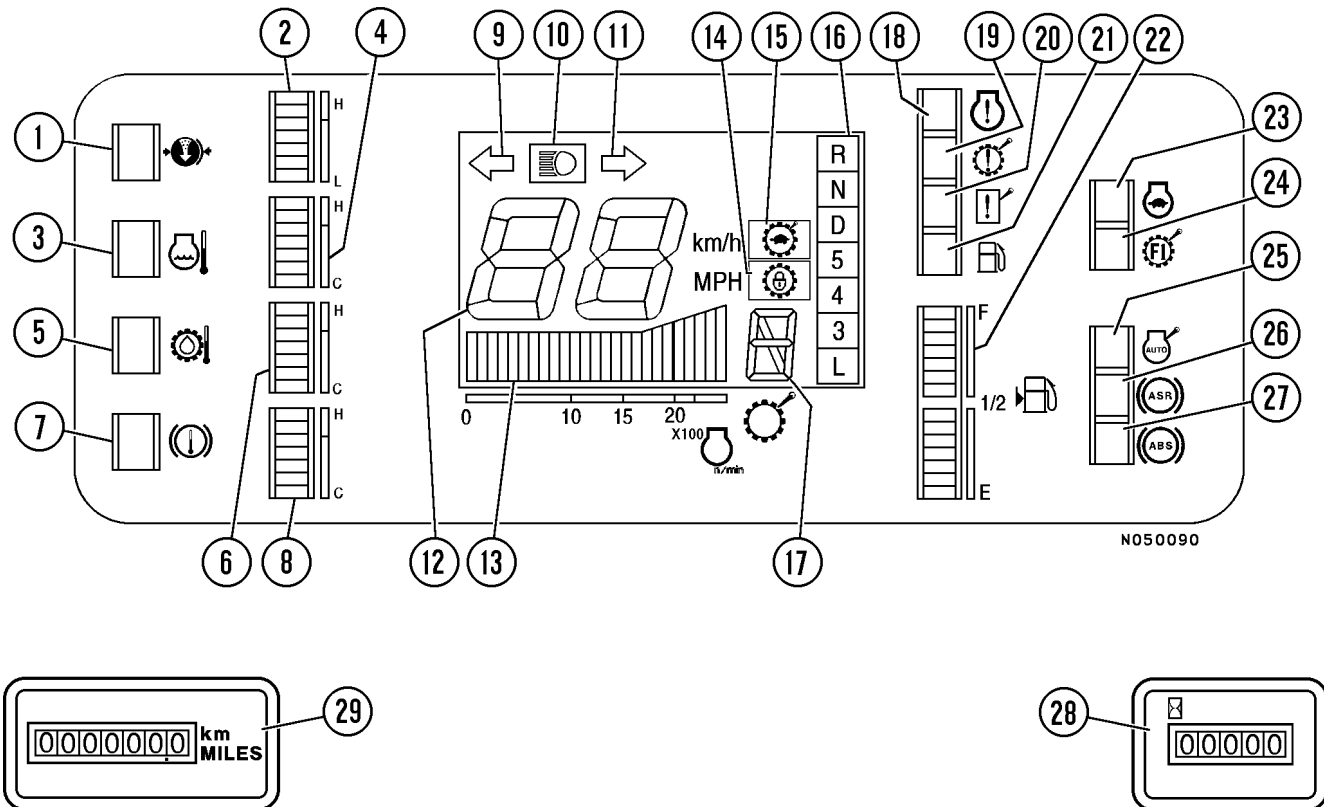

FIGURE 3-11. CENTER DISPLAY PANEL
The Center Display Panel (4, Figure 3-9) consists of a gauge and monitor module (1 – 27, Figure 3-11), with an odometer module (29) and a service/hour meter module (28). Liquid crystal is used for the display area.
The Air Pressure Monitor (1, Figure 3-11) is NOT USED on this truck.
The Air Pressure Gauge (2, Figure 3-11) is NOT USED on this truck.
The Coolant Temperature Monitor (3, Figure 3-11) indicates a rise in the cooling water temperature.
The Engine Cooling Water Temperature Gauge (4, Figure 3-11) indicates the temperature of the cooling water. If the temperature is normal during operation, the green range will light. If the red range lights during operation, the alarm buzzer will sound, the central warning lamp will flash and the coolant temperature monitor lamp will flash at the same time. If this occurs, stop the machine and run the engine with no load at 1200-1500 RPM until the green range lights.
The Torque Converter Oil Temperature Monitor (5, Figure 3-11) indicates a rise in the torque converter oil temperature.
The Torque Converter Oil Temperature Gauge (6, Figure 3-11) indicates the temperature of the torque converter oil. If the temperature is normal during operation, the green range will light. If the red range lights during operation, the alarm buzzer will sound, the central warning lamp will light up and the torque converter oil temperature monitor lamp will flash at the same time. If this occurs, stop the machine and run the engine with no load at 1200-1500 RPM until the green range lights.
The Retarder Oil Temperature Monitor lamp (7, Figure 3-11) warns that the retarder oil temperature has risen.
The Retarder Oil Temperature Gauge (8, Figure 3-11) indicates the temperature of the retarder cooling oil. During normal operation, a lamp in the green range should light up.
When the turn signal lever is moved downwards, the left turn signal pilot lamp (9, Figure 3-11) flashes.
The High Beam Pilot Lamp (10, Figure 3-11) lights up when the head lamps are on high beam.
When the turn signal lever is moved upwards, the right turn signal pilot lamp (11, Figure 3-11) flashes.
The digital Speedometer (12, Figure 3-11) indicates the travel speed of the truck in miles per hour, or kilometers per hour.
The Tachometer (13, Figure 3-11) indicates 0-2500 RPM engine speed. Each bar represents 100 RPM.
The Lock-Up Pilot Lamp (14, Figure 3-11) lights up (blue) whenever the torque converter is locked up and the transmission enters direct drive.
The Shift Limiter Pilot Lamp (15, Figure 3-11) lights up (blue) whenever the shift limiter switch (on center console) is activated.
The Shift Indicator (16, Figure 3-11) indicates the **lever position** of the transmission range selector.
The Transmission Shift Position Pilot Lamp (17, Figure 3-11) will indicate the specific gear range in which the transmission is actually operating: R, N, 1, 2, 3, 4, 5, 6, or 7.
This red indicator (18, Figure 3-11) flashes whenever any abnormality occurs in any of the engine control systems.
This red indicator (19, Figure 3-11) flashes whenever any abnormality occurs in the mechatronics related parts of the transmission control system.
This red indicator (20, Figure 3-11) flashes whenever any abnormality occurs in the mechatronics related parts of the PMC (Powertrain Management Control) system, RCM (Retard Control Monitor) system, PLM (Payload Meter) system, and the suspension control system .
This red indicator (21, Figure 3-11) flashes whenever the remaining fuel in the fuel tank goes below 40 gal. (150 liters).
The Fuel Gauge (22, Figure 3-11) indicates the amount of fuel in the fuel tank. If there is more than 40 gal. (150 liters) of fuel in the tank while the engine is operating, the green range illuminates. If there is less than 40 gal. (150 liters) of fuel in the tank, the red range illuminates.
This red indicator (23, Figure 3-11) flashes to alert the operator that the PMC (Powertrain Management Controller) has detected an engine fault and is signalling the Quantum™ Fuel Control system to reduce power output to protect the engine.
This blue indicator (24, Figure 3-11) illuminates whenever the F1 Shift Limit switch (on center console) is activated.
This indicator (25, Figure 3-11) is currently not used.
This indicator (26, Figure 3-11) illuminates whenever the OPTIONAL traction control system (if installed) is activated.
This indicator (27, Figure 3-11) illuminates whenever the OPTIONAL Anti-Slip Brake control system (if installed) is activated.
The Service Meter (28, Figure 3-11) displays the total hours of operation for the truck. The meter advances whenever the engine is operating, even if the truck is not moving.
The Odometer (29, Figure 3-11) indicates the total distance that the truck has traveled in miles or kilometers.